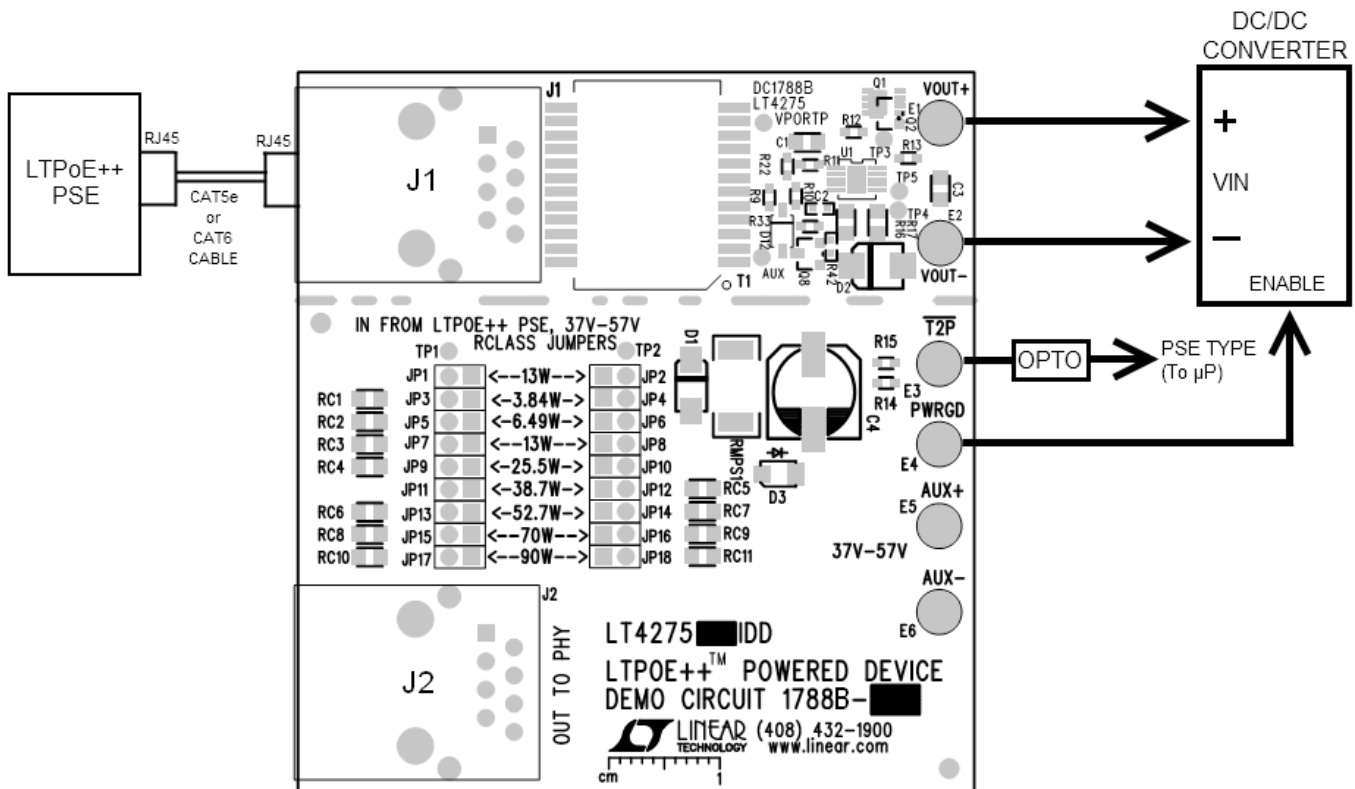

Figure 1. Setup Diagram for the DC1788B-A with a DC/DC Converter, a Microprocessor, and an LTPoE++ PSE
The LT4275 limits the inrush current to the output bulk capacitor by controlling the output voltage slew rate during turn-on. The slew rate is preprogrammed via a resistor and a capacitor at the LT4275 HSGATE pin on the DC1788B to limit the inrush current to the bulk capacitor on board. If more capacitance is desired at the output, refer to Inrush and Powered On section in the LT4275 data sheet to recalculate the inrush current and ensure it is below the IEEE requirement of approximately 100mA. The inrush current limit will cause startup problems if an attached load draws more than 100mA of current during inrush. Therefore, it is strongly recommended to use the PWRGD indicator on the DC1788B to interface to a load such as a DC/DC converter as shown in Figures 1, 2 and 4.
1. Refer to Figure 1 to evaluate the DC1788B-A with a DC/DC converter. If a resistive load is used to evaluate the DC1788B-A, connect the load by hand between VOUT+ and VOUT- after the LED (D3) is lit. It is recommended to disconnect the resistive load before powering down the DC1788B-A, so at the next turn on the load is disconnected. If the load is not connected and disconnected by hand properly, the PD may not power on. Contact field applications engineers for further details.